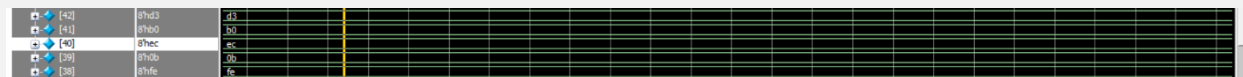

Figure 6: DOUT assigning check
- 1.6. Figure 6: DOUT Assignment